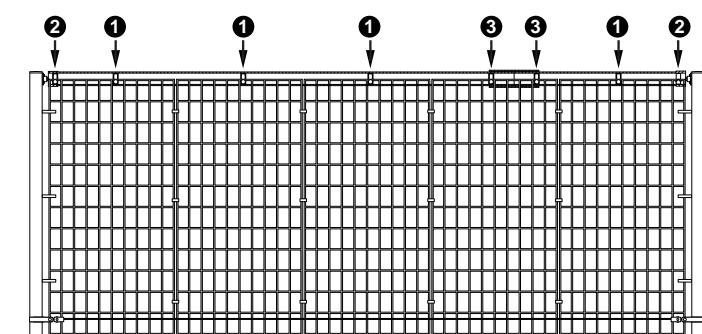

Fig. 17 Terminating Panel Installation
- Hook the terminating panel section to the three panel-to-post brackets on the terminating post and pull toward the previous panel section. If the terminating panel is not an even 2' you will need to cut the panel at the closest vertical wire using wire cutters. Flip panel so short panel connects to three post-to-panel clips. Connect the two panel sections with three panel clips. Secure the terminating fence panel to top rail by using panel-to-rail clips. (Fig. 17)